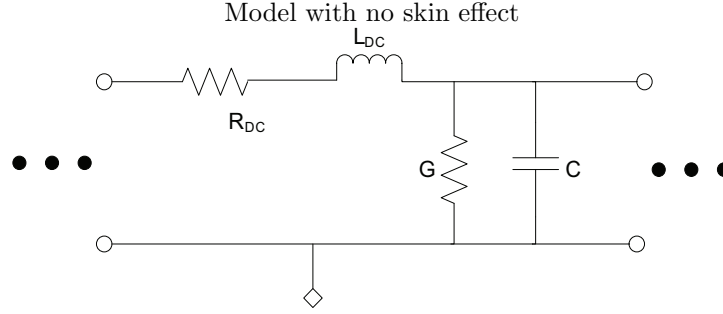

Figure 5: Transmission line subsection with skin effect not included
Setting of the f_{max} parameter denotes the desire to use skin effect. If f_{max} is left out, the model behaves exactly as described above. If skin effect modeling is desired, f_{max} should be set to the maximum frequency at which the user expects the model to be valid. Eg. If the user is working at frequencies no higher then 10 GHz setting f_{max} to 10e9 would be sufficient. Setting f_{max} to lower than the desired frequency will result in reduced accuracy. Note if alpha is set to 0 (ideal conductors) then the skin effect will appear not to have any effect because by definition the model will have zero series resistance. If f_{max} is not included, the transmission line subsections will be modeled as shown in Figure 5
The model constant C_1 was calculated such that at DC the parallel combination of all the (R) resistances are equal to R_{DC} since the inductors are shorted at DC. C_2 is somewhat more complicated but it is solved for iteratively by equating the low frequency phase of the skin effect R L with the low frequency phase of the R_{DC} and L_{DC} circuit in Figure5. These can both be solved for based on the number of branches required.